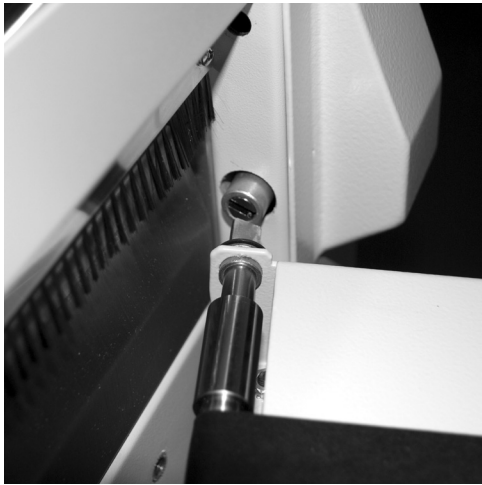
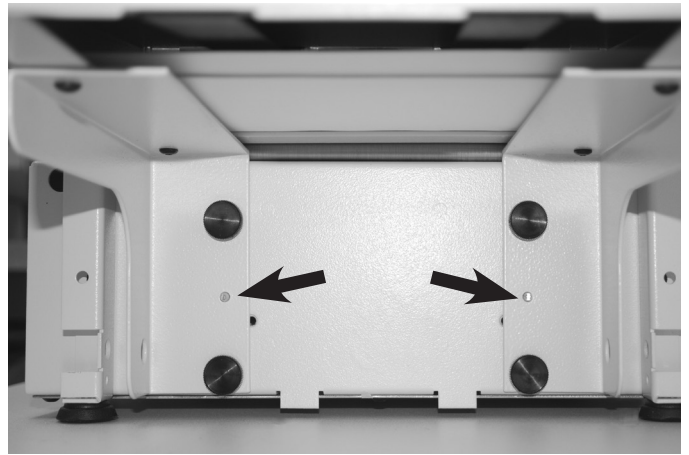

Figure 1a
Figure 1b
3. To attach the conveyor to the out-feed, align the tab on the right side of the conveyor with the slot on the machine (Figure 1a). Rest it upon the two alignment studs (see arrows), and tighten the four thumbscrews provided (Figure 1b).